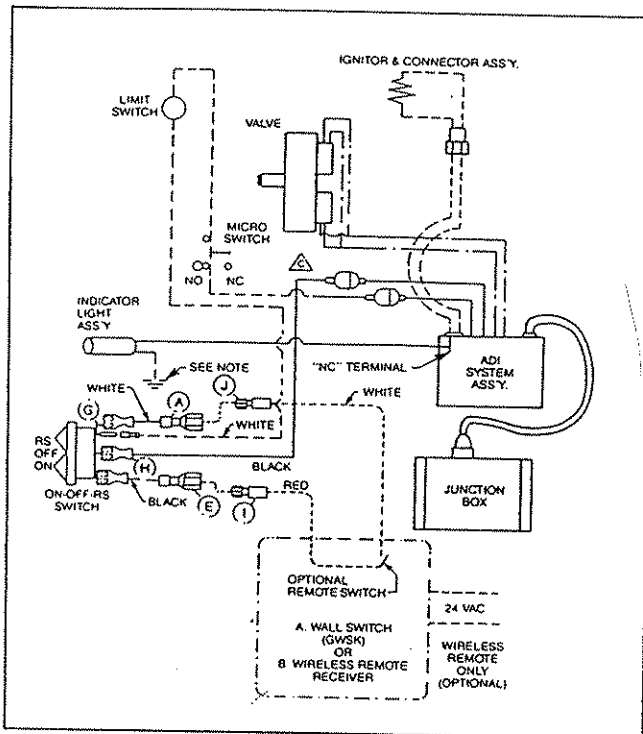

Fig. 17. Wiring diagram for G36DVadi.
3. Visually inspect pilot. Brush or blow away any dust or lint accumulations. If pilot orifice is plugged, disassembly may be required to remove any foreign material from orifice or tubing. When appliance is put back in service, check flame patterns with Fig. 17.